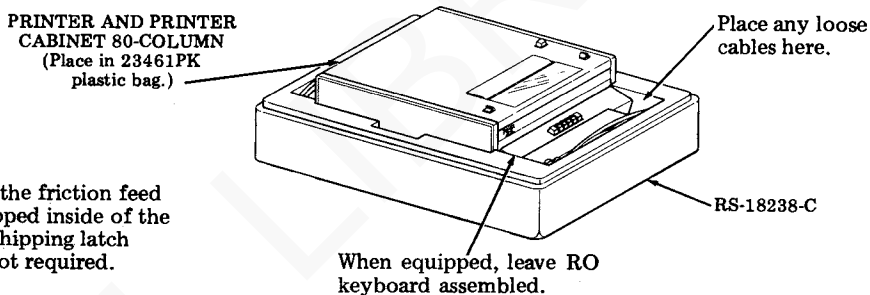

Fig. 11
- Step 2. Insert keyboard and any loose cables in space provided in the RS-18238-C detail. See Fig. 11.